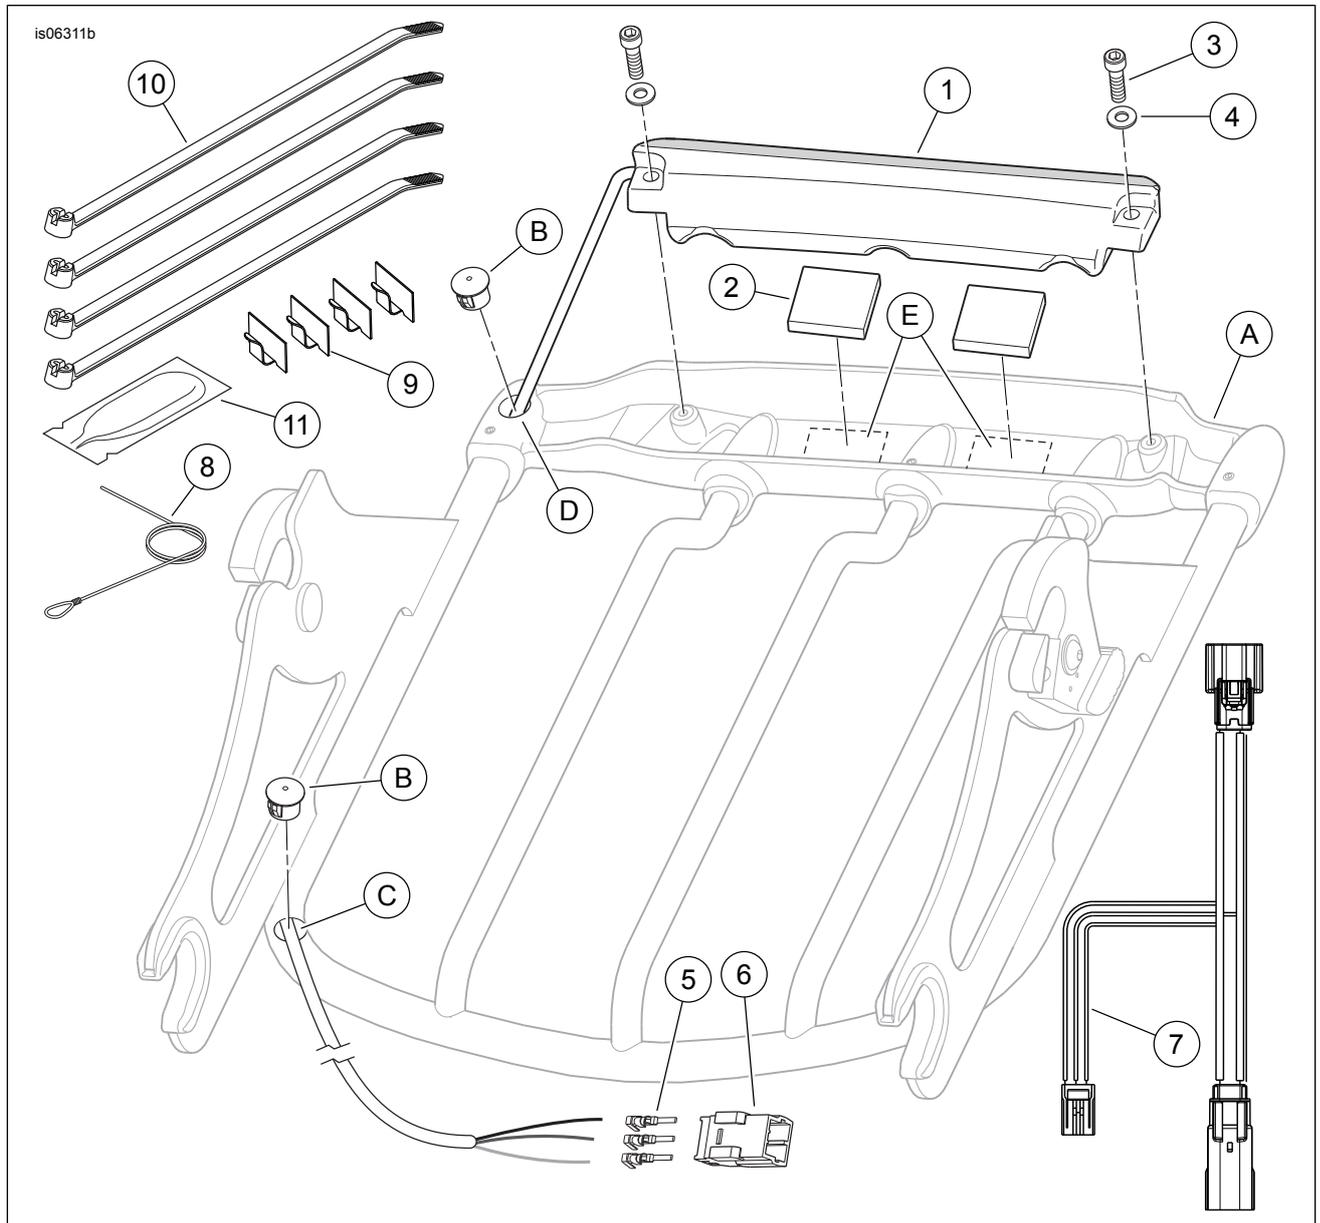

Figure 3. Service Parts, Air Wing Detachable Luggage Rack Light Kits
See Figure 3 and Table 1.
1. If not already in place, install the Detachable Docking Hardware Kit per the instructions in **that** kit. See Figure 3. If installed, remove the Air Wing Detachable Luggage Rack (A) from the vehicle and place it upside-down on the work surface.
2. Remove the black plastic plugs (B) from the holes at the front and back of the left side rail.
3. Insert the loop end of the nylon monofilament guide wire (8) through the forward hole (C) in the rail, and out through the rear hole (D). Allow the straight end to remain outside the forward hole.
6. Remove the liner (4) from the adhesive backing on **one side** of a pad (2). Carefully position the pad to the top surface of the light (1), between the clearance notches, and press firmly into place. Repeat with the second pad.
7. See Figure 3. Remove the remaining liner from both pads, and install the light to the rear cross bar with two socket head screws (3) and flat washers (4), drawing the wiring out the forward hole (C) as the light is set in place. Tighten the screws securely.
3. See Figure 3. Connect the luggage rack light extension wire harness (7) to the main harness and the rear lighting harness.